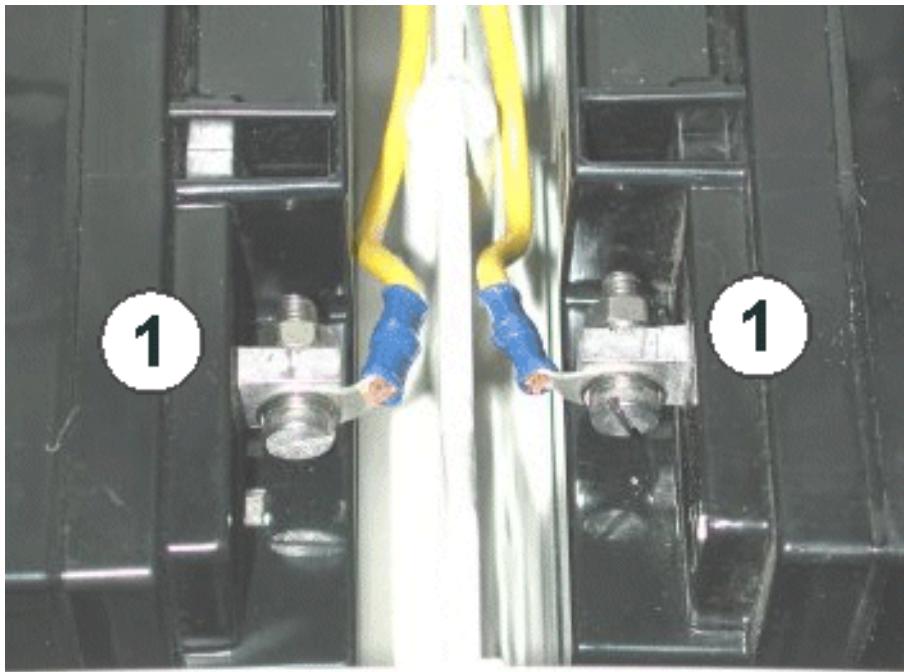

Fig. 9 Fuse carrier connections
- 12 Using the screws, washers, split washer, and nuts (Fig. 9/1) connect the cables of the fuse carriers to the connections of the rechargeable batteries.